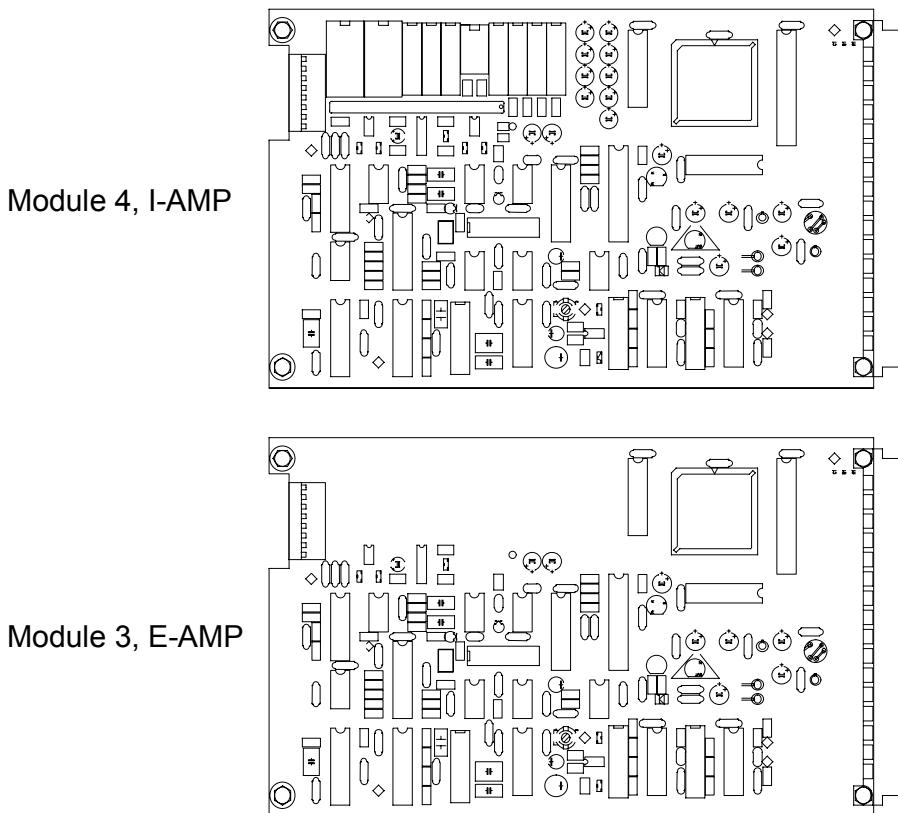

Figure 4: The modules 3 and 4, the amplifiers
There is a flat cable connected to the right of the potentiostat (Fig4) .
- AMP3) Put I-amplifier (module4) into the next slot left of the potentiostat. The I-amplifier will be distinguished from the E-amplifier by the lot of additional relays on it (Fig4).